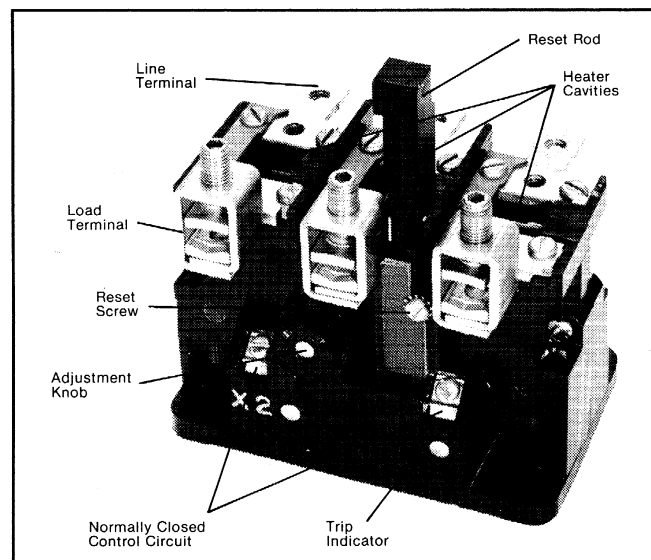

Fig. 9 Type A Block Overload Relay
**TYPE A OVERLOAD RELAY (See Figure 9)**